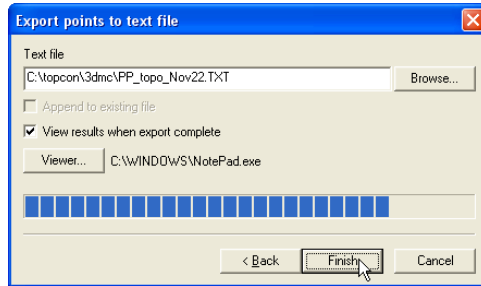

Figure 3-22. Exporting Points to Text File
5. Click **Finish** to export the selected points to a text file (Figure 3-22).